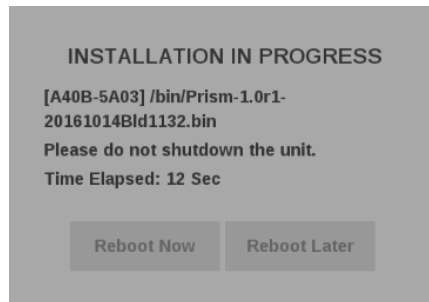

Figure 58: Upgrade Installation In Progress message box
7. While the upgrade is in process, a message box appears stating that the firmware installation is in progress. (See Figure 58.)